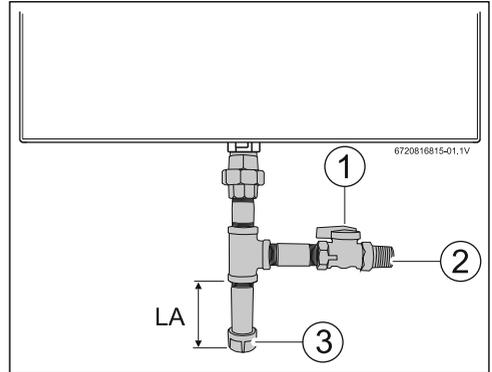

Fig. 11 Gas connection
- ▶ National Fuel Gas Code requires that a sediment trap (drip leg) be installed on gas appliances not so equipped. The drip leg must be accessible and not subject to freezing conditions. Install in accordance with the recommendations of the serving gas supplier, see fig. 11.